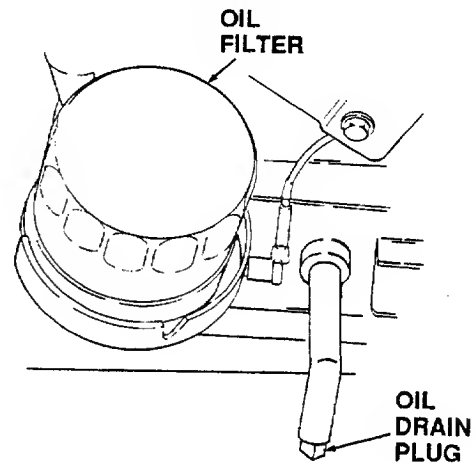

Figure 20
The oil filter is located behind the left side panel and is mounted on the engine. (See Figure 20.)
2. Clean around the oil drain plug and remove the plug from the oil drain tube. Collect the old oil in an adequate container. (Refer to Figure 20.)